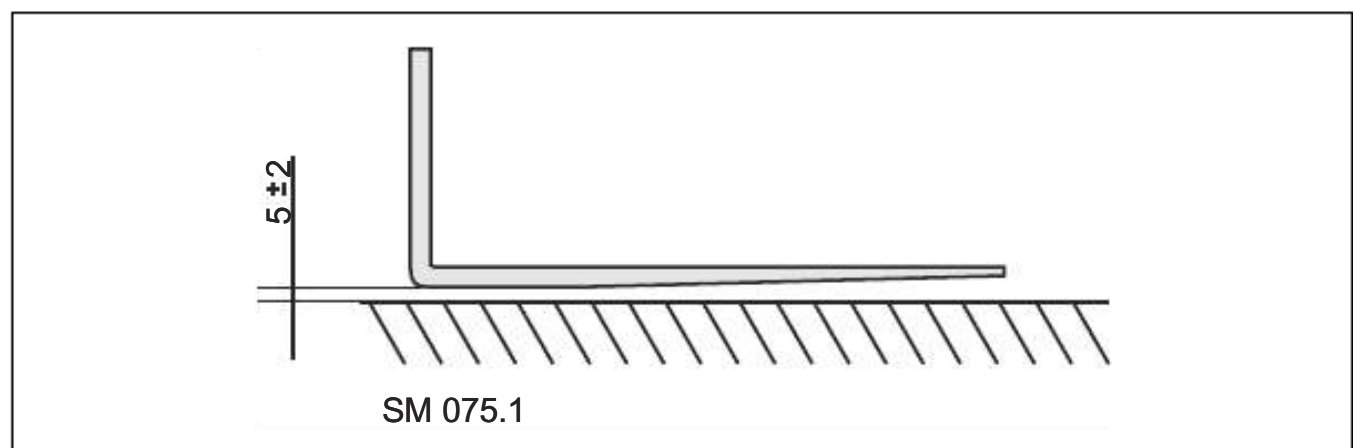

Figure 6.27 Distance from floor
3. Adjust the middle chain so that the fork head is  $5 \pm 2$  mm from the ground (see figure 6.27).